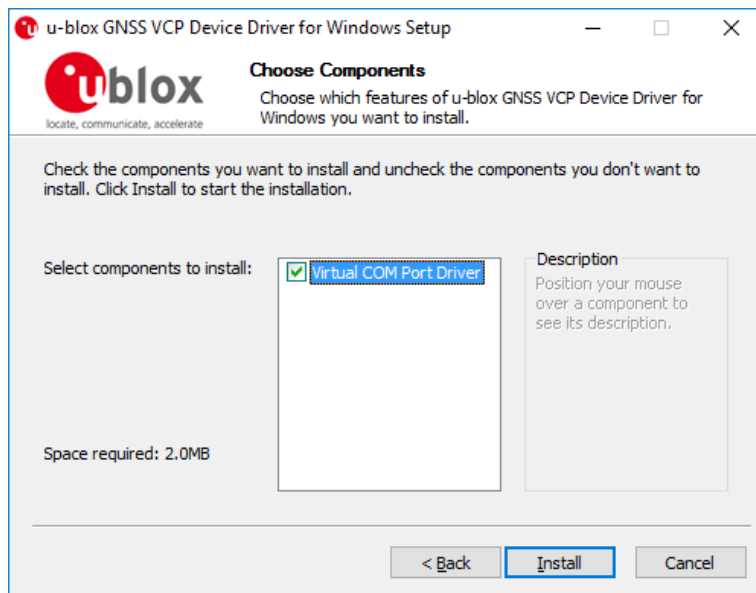

Figure 13: Driver selection
4. On the "Choose Components" window, as shown below, make sure the VCP Device Driver is selected as shown in Figure 13. Then click on the "Install" button.